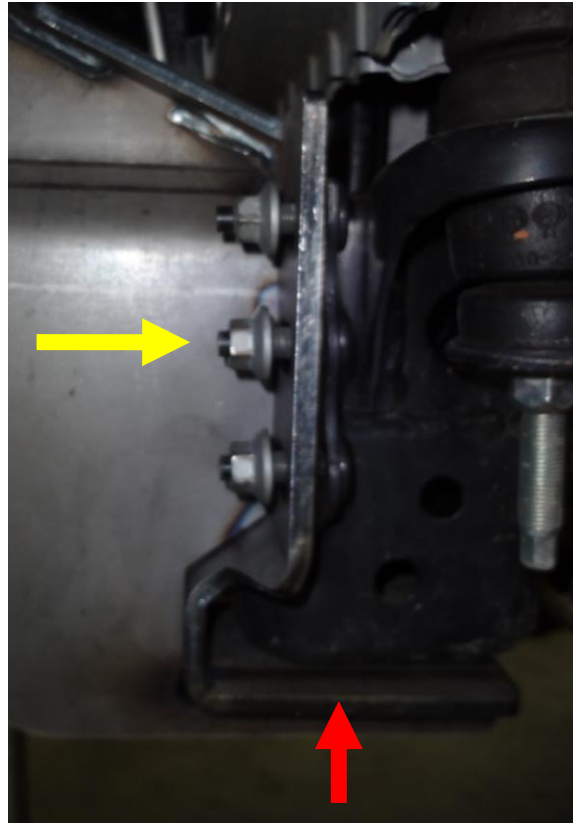

Figure 12
2. Using the OEM hardware install the intermediate brackets to the frame. When mounting the bracket four studs will pass through the face and two bolts through the bottom. Arrows will indicate mounting direction; yellow arrows are for nuts and red arrows are for bolts (Ref. Figure 12). Do Not Tighten Fully, Only Finger Tighten to allow for adjustment.